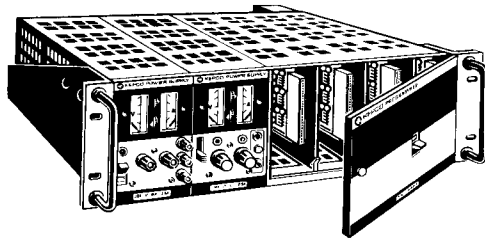

FIG. 1-2 KEPKO MODEL SNR 488-4 RACK HOUSING.
- 1-6 While a minimum SN 488 system, consisting of a Model SNR 488-4 Rack Housing and one Model SN 488-B or SN 488-D Programming Card provides two (2) independent outputs, the maximum capacity is provided with Model SNR 488-8 Rack Housing and eight (8) Model SN 488-B or SN 488-D Programming Cards, providing sixteen (16) independent outputs. The Kepco SNR 488 system is thereby capable of programming multi-power supply installations via a single standard bus connector.
- 1-7 By means of the Kepco SN 488 Programming System, and "controller" or "talker" on the GPIB bus can communicate with any system power supply. The SN 488 implements the LISTENER (LI) and the ACCEPTOR HANDSHAKE (AHI) functions per GPIB protocol.
- 1-9 **Kepco Model SNR 488-4**, with built-in interface card, is a 19" rack housing with slots for four (4) programming cards and with room for either two (2) "quarter rack" or one (1) "half-rack" Kepco power supply (see FIG. 1-2).